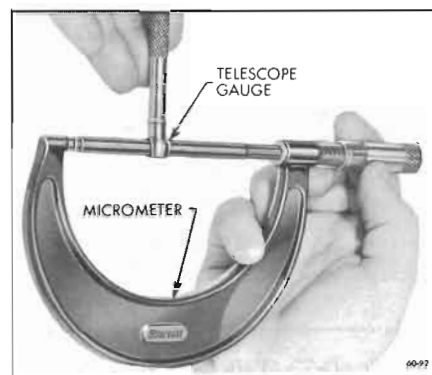

Figure 60-92—Measuring Telescope Gauge
2. Measure the telescope gauge. See Figure 60-92.